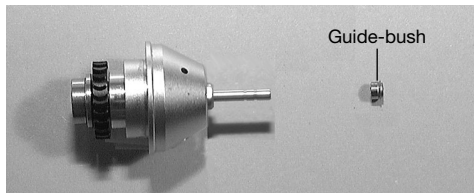

Fig.21
- ② Set the longer one of the guides of the guide bush on the end of the rotor shaft first along the test bur. (Fig.21)